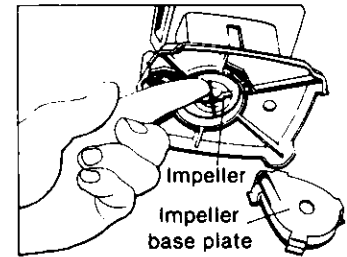

Figure 10
- Pump impeller turns freely. Remove pump and basket. Remove impeller cover (see Figure 10 and spin the impeller to assure free rotation).